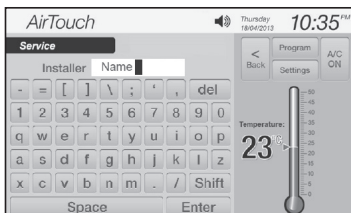
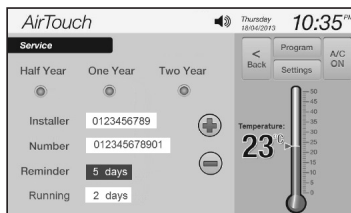

Figure 24.
Figure 25.
- Touch the edit field to change to the desired setting. The installer name and number can be entered by using a keyboard (Figure 24). or buttons can be used to adjust reminder and running days (Figure 25).